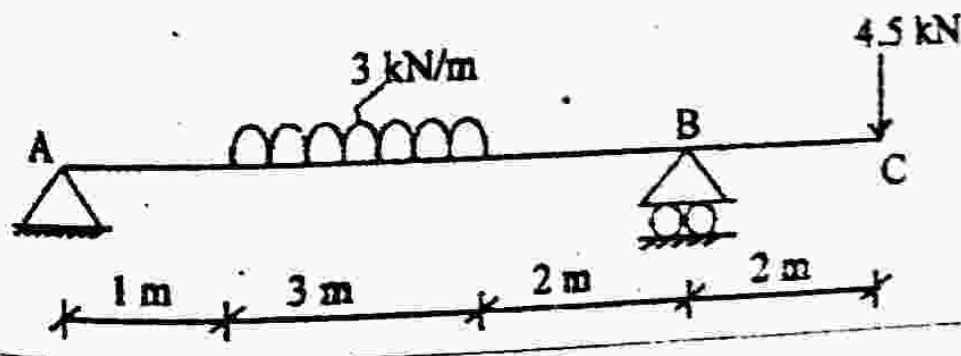

Fig. Q. 10
10. An overhanging beam ABC is loaded as shown in Fig. Q. 10. Determine the deflection at point C and the maximum deflection between A and B. Take $E = 200 \times 10^9 \text{ kN m}^2$ and $I = 24 \times 10^6 \text{ m}^4$. (13)